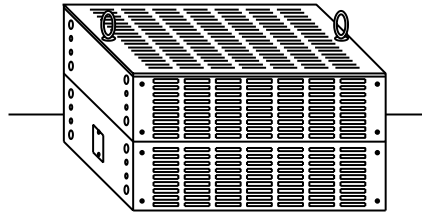

Figure 5: Typical Floor Mounted Unit
5. All larger units (10 Hp and above) are 29" wide and must be roof or floor mounted as shown in **Figure 5**. Fasten enclosure with (4) 1/2" bolts.